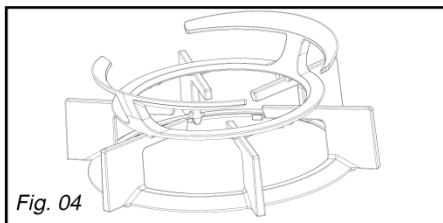

Fig. 04
- **Adjust the hob connections:** these are located underneath the knobs (*Fig. 04*).
This wok type grid allows you to use concave cookware. Supplied only for “high power” burners, it provides better flame distribution under large receptacles such as woks (Fig. 04).